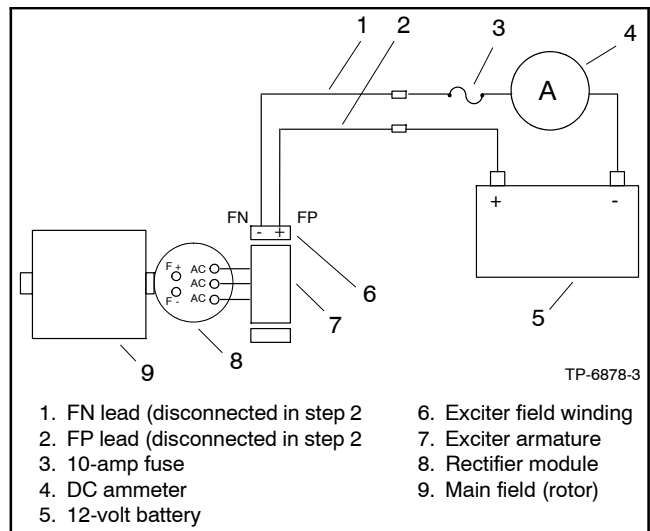

Figure 10-2 Separate Excitation Connections
5. Connect a DC ammeter, 10-amp fuse, and a 12-volt battery to the positive (FP) and negative (FN) exciter leads as shown in Figure 10-2. Note and record the ammeter reading.